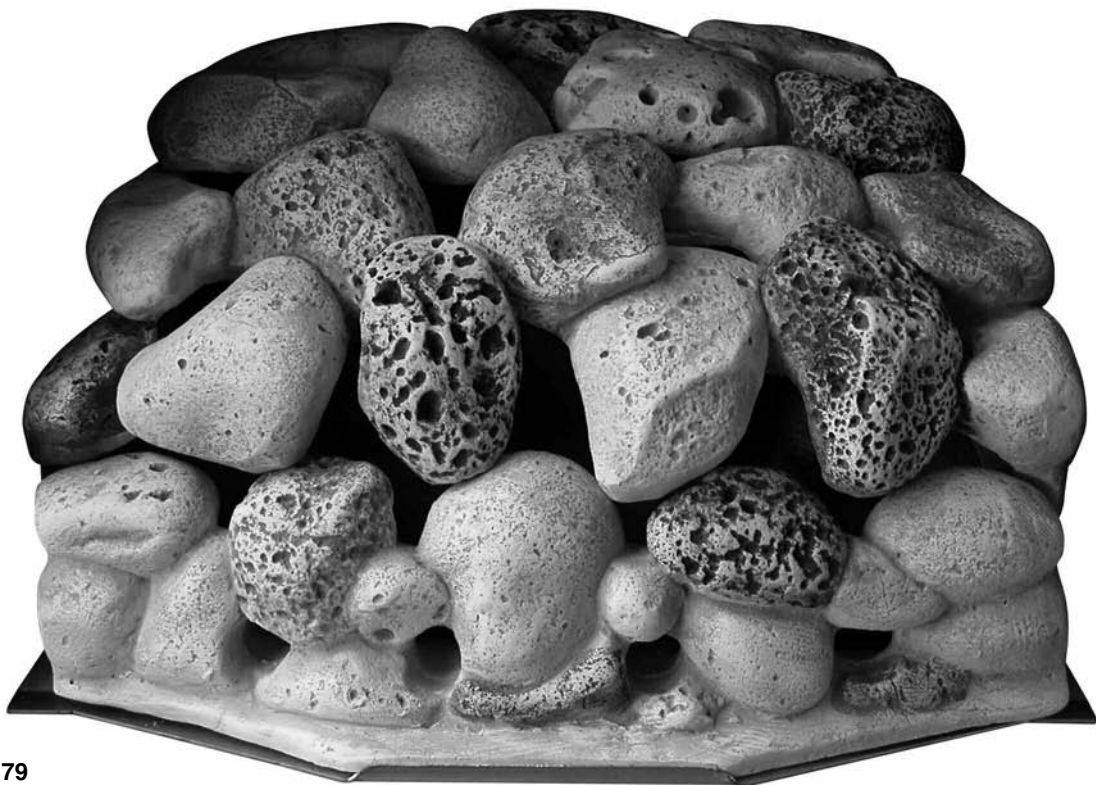

Fig. 79
5. Finally check that all the pebble pieces are 'nested' together correctly (Fig. 79).